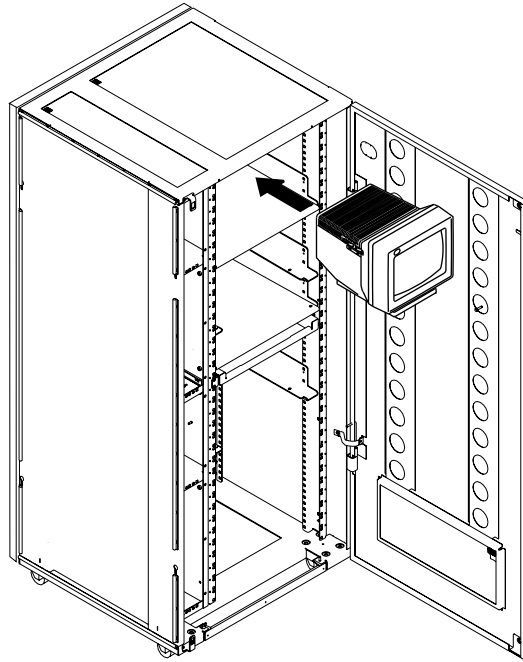

Figure 1-8. Installing the Display Screen in the Controller Expansion (Front Side)
9. ____ Slide the display screen on the top of the controller expansion (refer to Figure 1-8 on page 1-13).